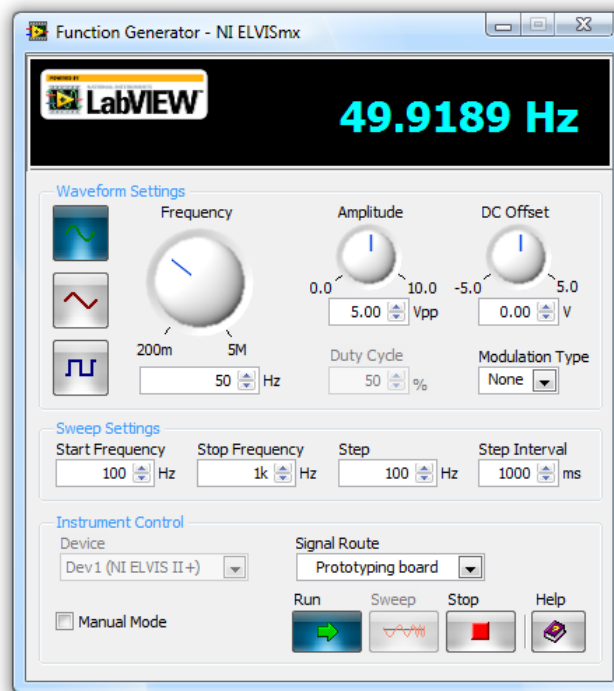

Figure 3.3: NI Elvis II Function Generator
2. Launch function generator and set 5Vpp, 50 Hz, Sine wave as shown in the figure 3.3.